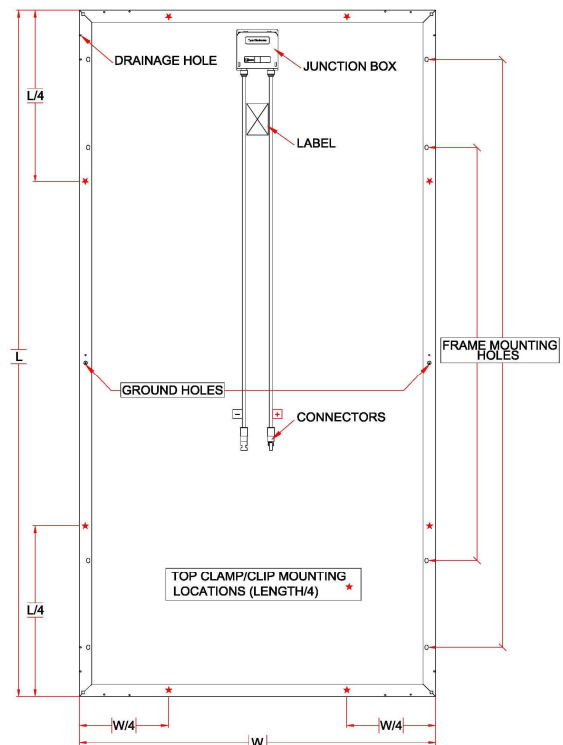

Figure 1: Module Mounting Location
If PV modules individual grounding is requested by the local legislation, Upsolar PV modules should be grounded to the module frame using one of the provided grounding holes (Figure 1). Please refer to NEC Article 250, 690.41-690.49, and UL Standard 1703 for proper grounding procedures.
1. **Mounting clamps (for open-rack and roof installations):** Attach the PV module to the mounting system using Clamps or Clips from a certified manufacture according to their instructions. Clamp and/or clips should be spaced at $\frac{1}{4}$ the length or width from the frame ends ($\pm 5 \text{ cm}$). Top mount clamps/clips should always be mounted symmetrically. See figure 1. Upsolar recommend the following minimum dimensions for each clamp: catch length: 30.0mm, catch width: 5.0mm, thickness: 3.0mm. The torque recommended to fix the clamps is 15 N.m (11.1 lb.ft).